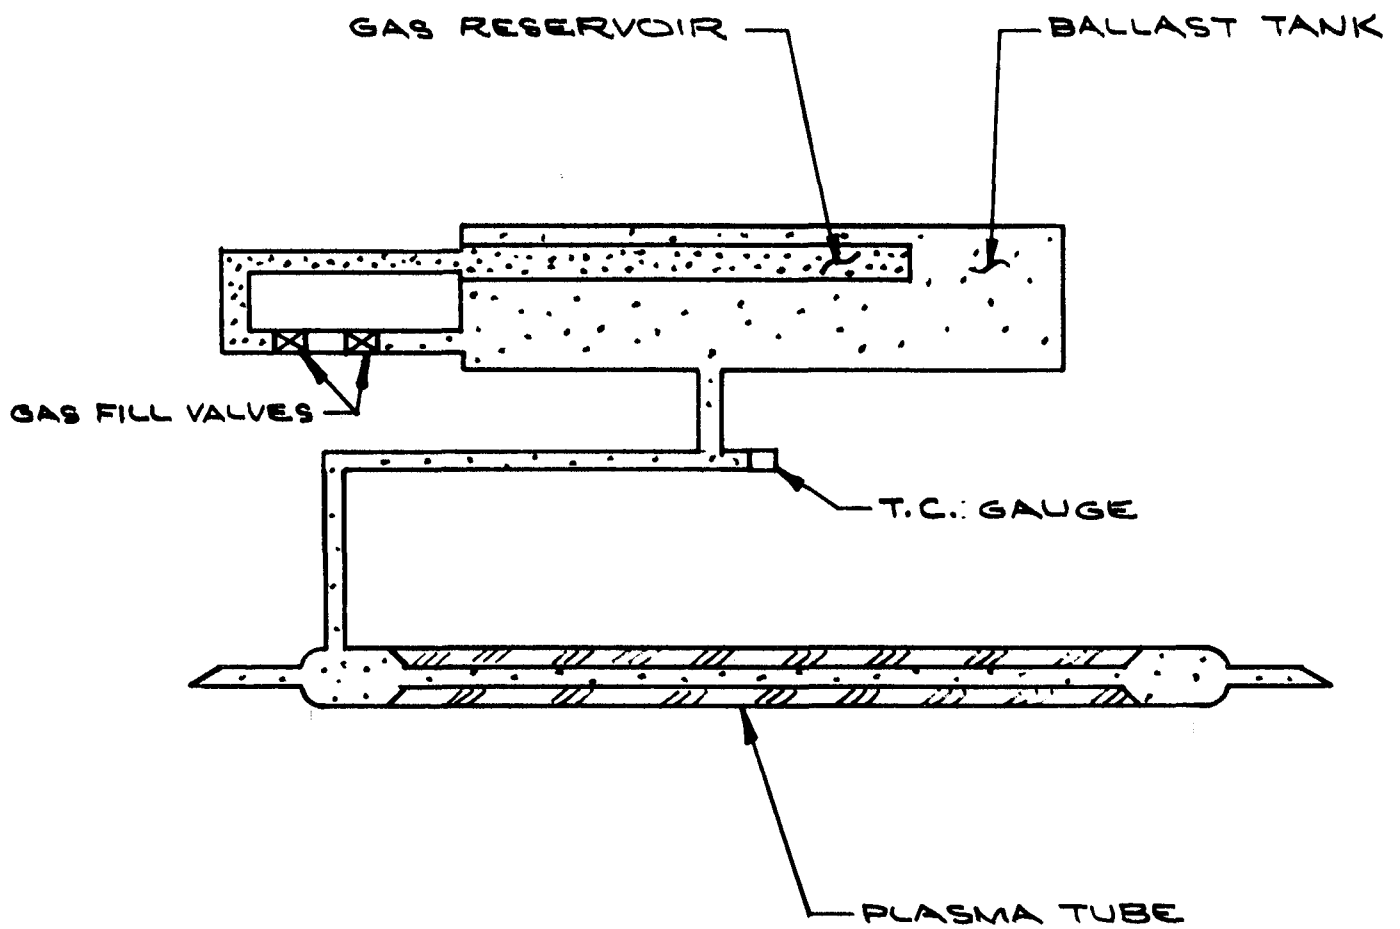

FIG. 6.2
6.2 Gas Supply System (See Fig. 6.2)